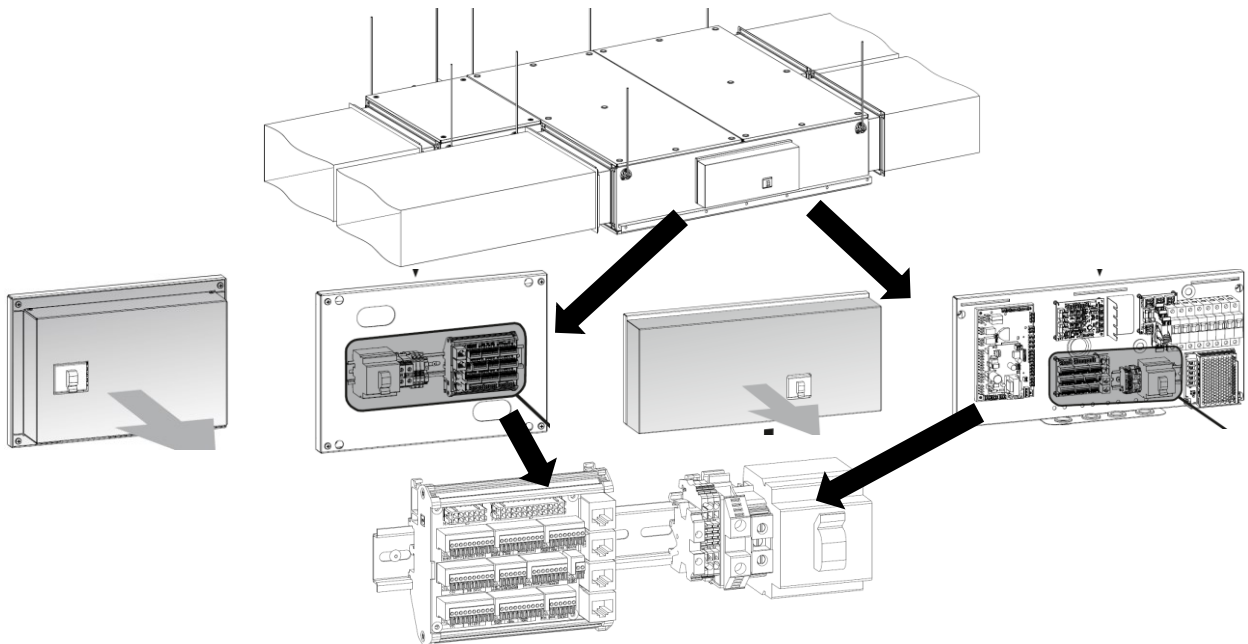

Figure 3 - VVSs - location of the terminal box
The VVSs Floor-mounted AHU may be factory-fitted indoor application only. Depending on the execution, location of the terminal-box may vary, as per below (Figure 3):
- Terminal box includes main switch, mains and controls terminals only. Main AHU controller installed inside the unit's body (Figure 3, left).
- Terminal box includes main switch, mains and controls terminals, main AHU controller, pressure transducers board, main circuits breakers and control circuits power supply. All integrated on one common board (Figure 3, right).